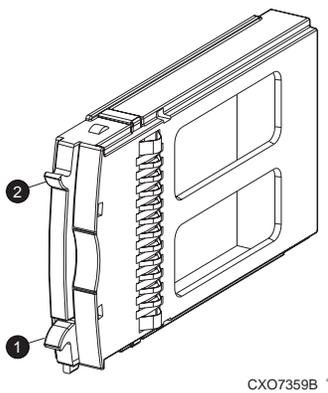

Figure 7 Removing the drive blank
1. Grasp the drive blank by the two mounting tabs (see Figure 7).